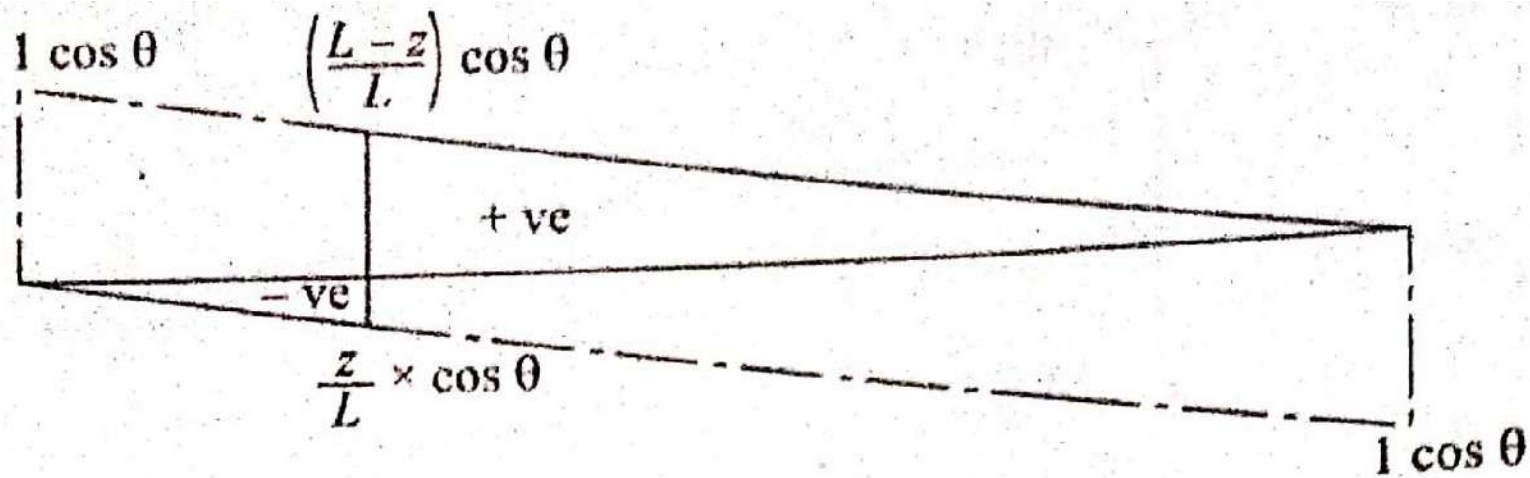

Figure 11: ILD for $V \cos \theta$
- $V \cos \theta$ diagram is drawn. This is similar to the ILD for SF in a beam but multiplied by the constant $\cos \theta$ as shown in Figure 11.